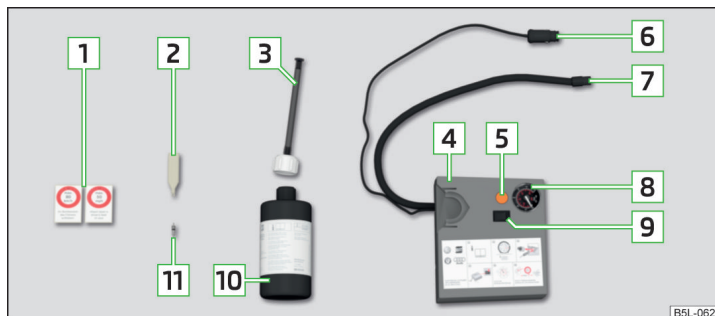

Fig. 204 Principle sketch: Components of the breakdown kit
Components of the set » Fig. 204
- Stick the sticker **1** » Fig. 204 on page 218 on the dashboard in the driver's field of view.
- Forcefully shake the tyre inflator bottle **10** » Fig. 204 on page 218 back and forth several times.
- Screw the air compressor tyre inflation hose **7** » Fig. 204 on page 218 firmly onto the tyre valve.